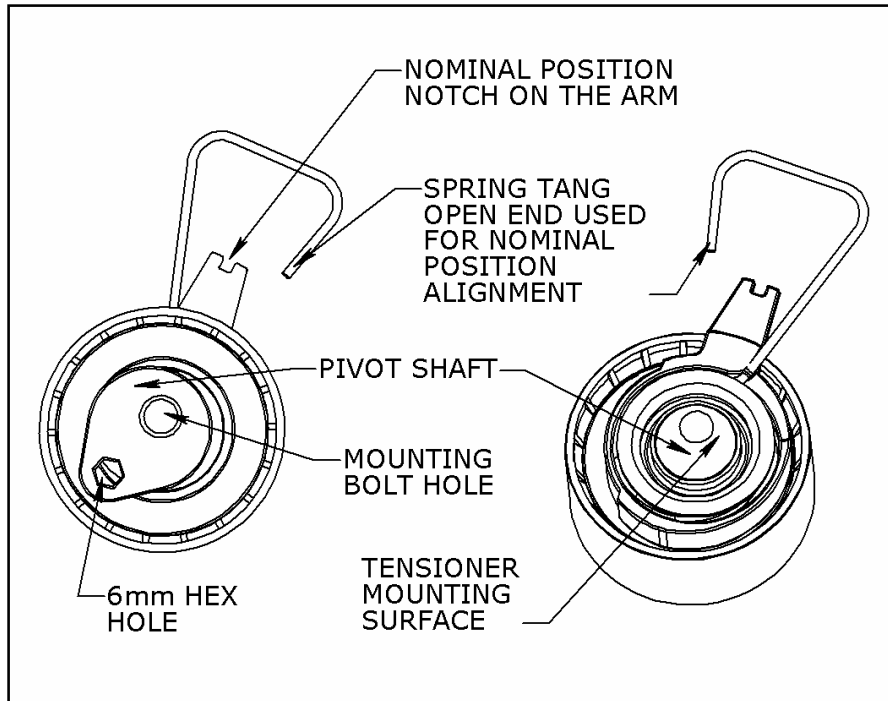
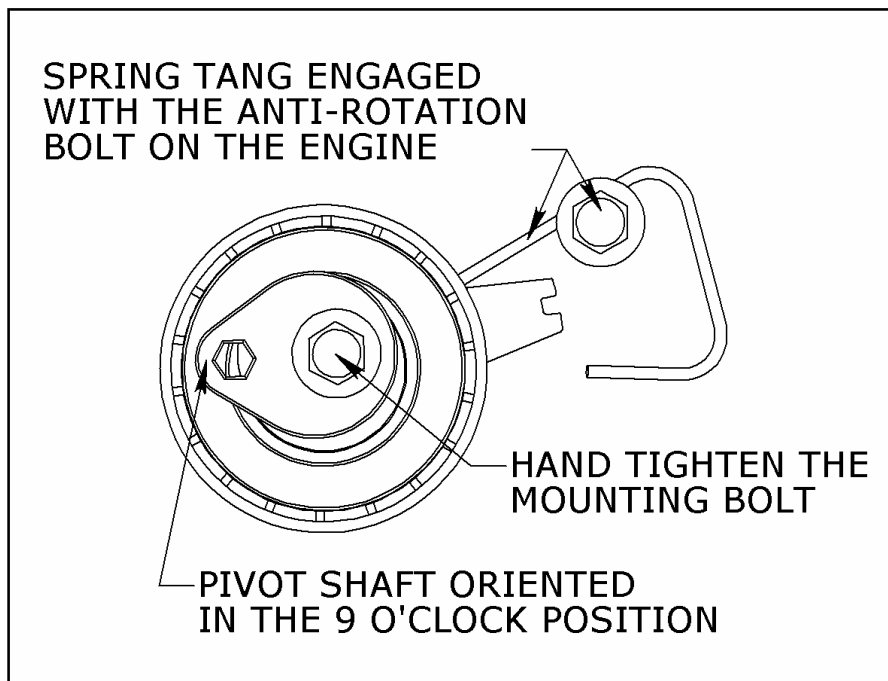

Figure 2: Timing Belt Tensioner
Figure 3: Initial Tensioner Setup
5. Mount the new timing belt tensioner (Figure 2) on the engine with the M8 mounting bolt, and ensure that the spring tang of the tensioner (Figure 3) is engaged with the Anti-Rotation bolt on the engine. Hand tighten (lightly) the mounting bolt.
6. Rotate the Pivot Shaft while holding the mounting bolt with a wrench to prevent it from rotation, until the 6mm Hex Hole is pointing at the "9 O'clock" position (Figure 3). This will maximize the belt clearance with the timing belt tensioner for ease of installation.